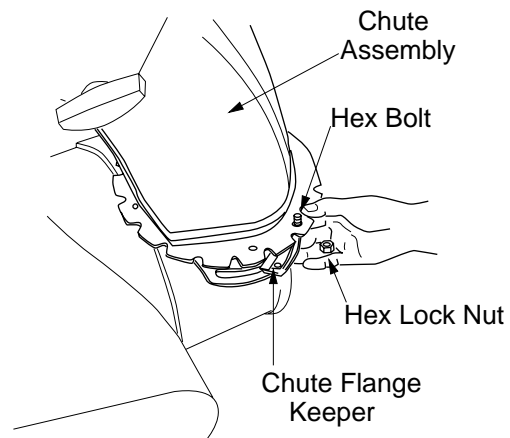

Figure 7
2. Insert hex bolt (K) up through chute flange keeper and chute assembly as shown in Figure 7. Secure with hex lock nut (M). After assembling all three chute flange keepers, tighten all nuts and bolts securely. Do not overtighten.